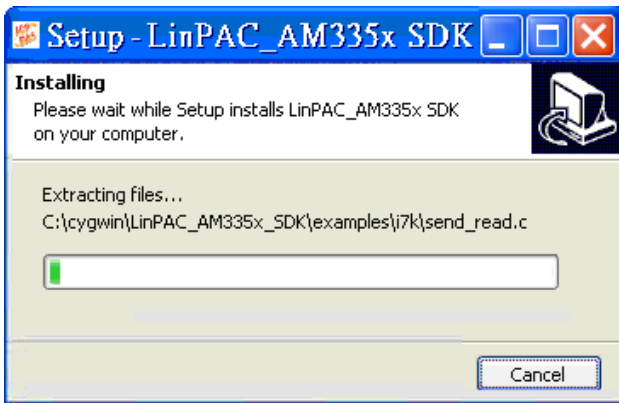

Fig. 3-11
5. The LinPAC AM335x SDK files will be extracted and installed and a progress bar will be displayed to indicate the status, refer to Fig 3-11.